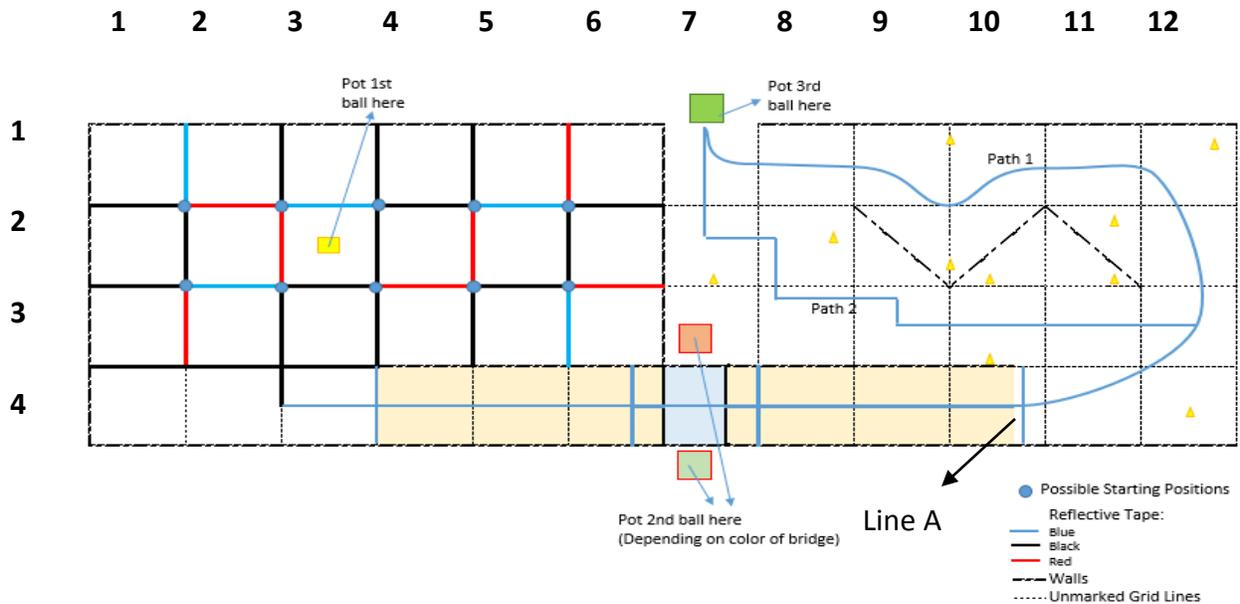

Figure 1 Contest Arena (Top View)
12/09/2017	Page no.6 Figure 1.
09/02/2018	Page no.6 Figure 1.
- 6.1 The Contest arena shown in *Figure 1 Contest Arena* consists of two sub arenas, both the sides are identical to each other and their colored boxes locations are similar.
- 6.9 The robot can only enter in zone Z2 from Z1 by crossing the bridge. The bridge is as shown in Figure 1. Contest Arena. The robot must cross the bridge.
- 6.10 The starting position of the robot in Z1 will be random. The robot will be placed on any one of the 10 cross section points marked with blue circles in *Figure 1 Contest Arena*. The orientation of the robot will also be random.
- 6.13 The robot may not throw the table tennis ball. It can only drop the ball after Stopping at the grid located at (2,3) for the yellow box as shown in Figure 1. Contest Arena in Z1. The robot or an extension of the robot must be present in the grid unit present at the location (2,3) as shown in Figure 1. Contest Arena in order to pot the sensor in the box.
- 8.1 The robot may not throw the table tennis ball. It can only drop the ball after Stopping at the grid located at (2,3) for the yellow box and the grid location (1,7) for the green box as shown in Figure 1. Contest Arena in Z1 and Z2 respectively. The robot or an extension of the robot must be present in the grid unit present at the location (2,3) as shown in Figure 1. Contest Arena in order to pot the sensor in the box.